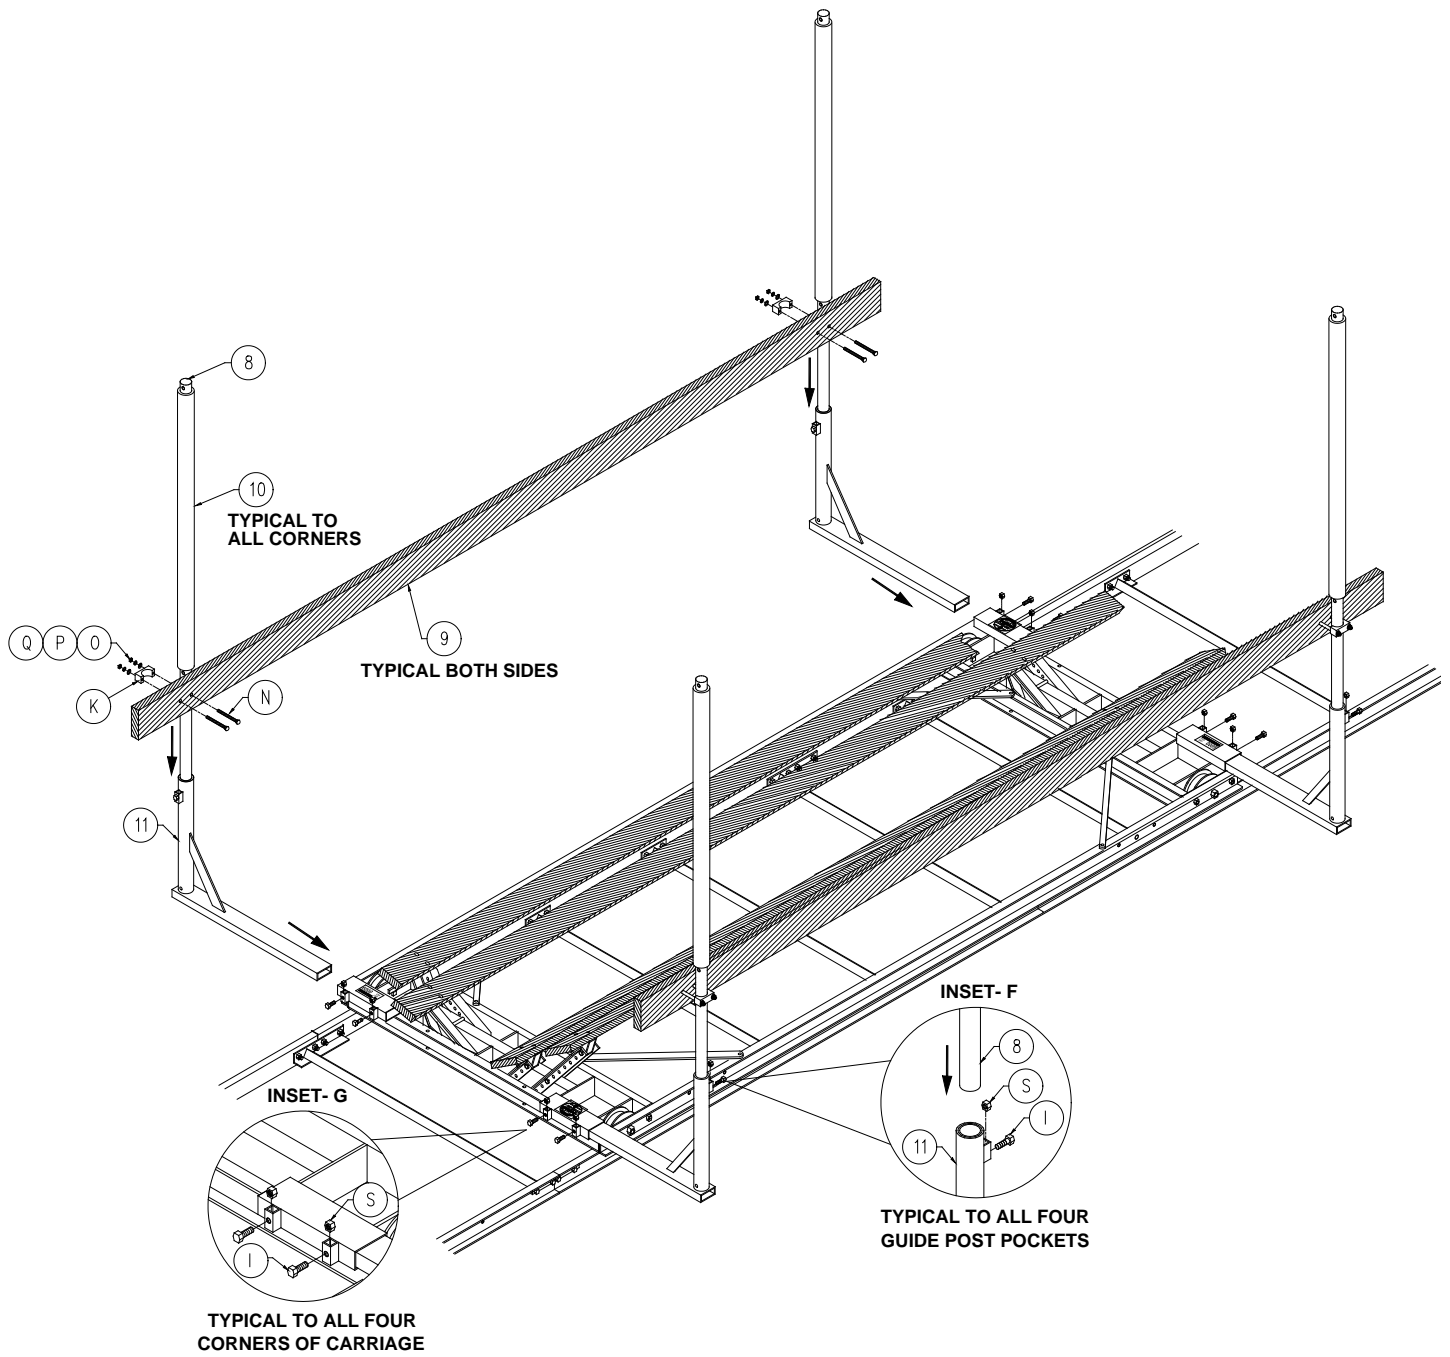

Figure 3-5.
1. Refer to **Figure 3-5**. Insert four guide post pockets into the tubes on the truck assemblies that contain the captured nut housings.